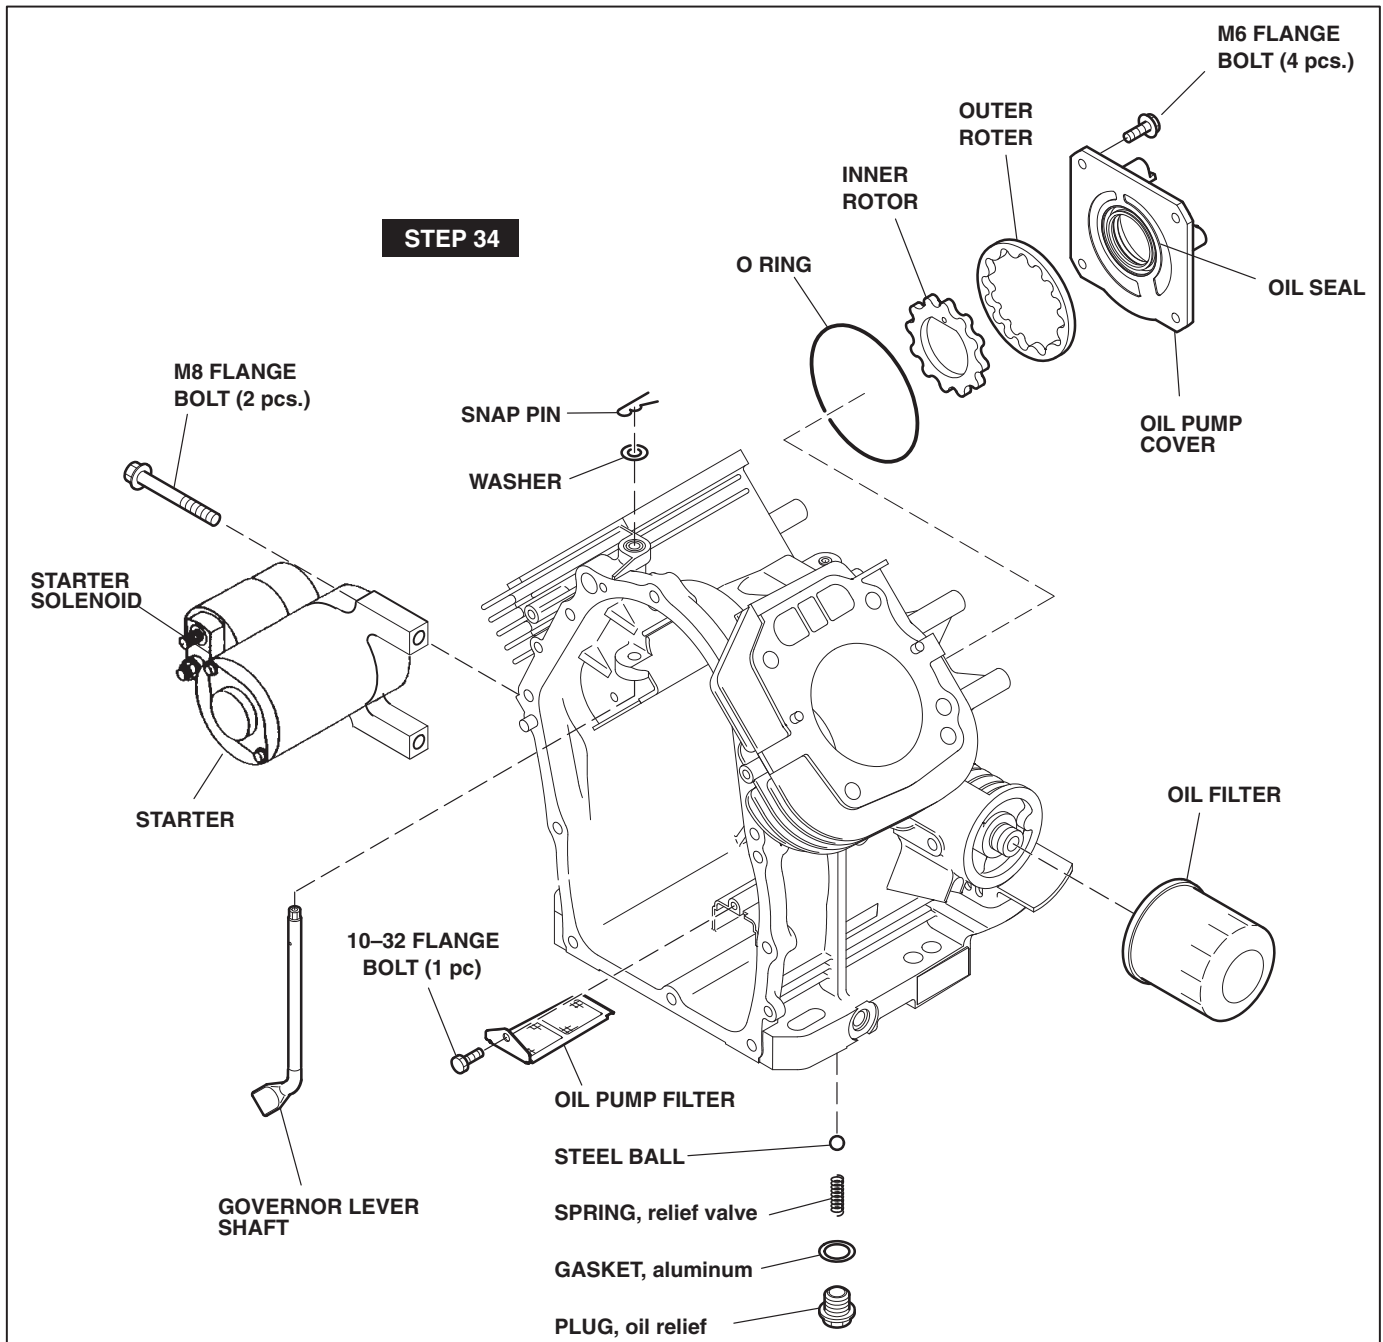

FIGURE 5-16.
1. Replace oil pump filter in bottom of crankcase (Figure 5-16).